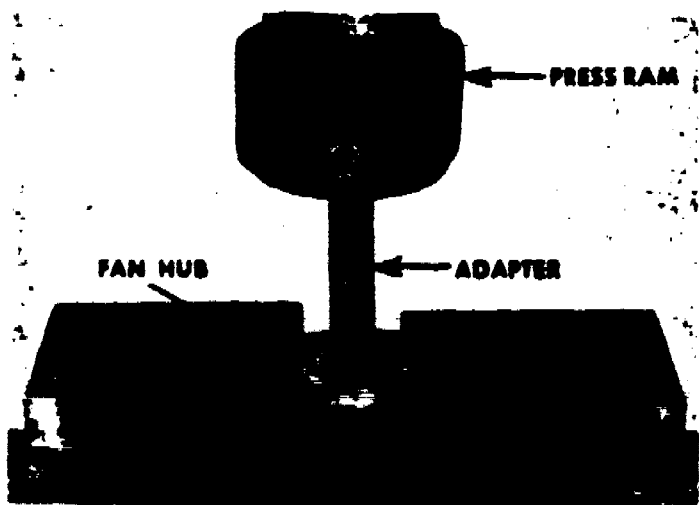

Fig. 91 - Fan Hub Removal
4. Place shaft assembly in press and press fan hub from shaft (Fig. 91). CAUTION: Do not attempt to remove bearing or slinger from shaft as these are factory installed, in the proper location.